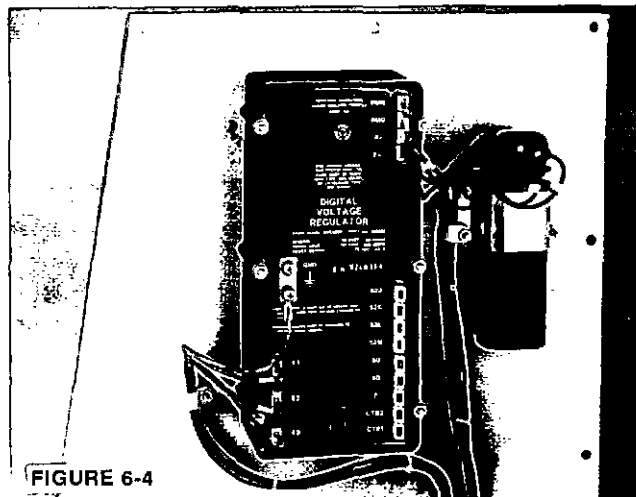

FIGURE 6-4
1. Note the location and markings (re-mark as required) and remove connections from voltage regulator, capacitor, and any other conduit box mounted control. (Figure 6-4 and 6-5.)